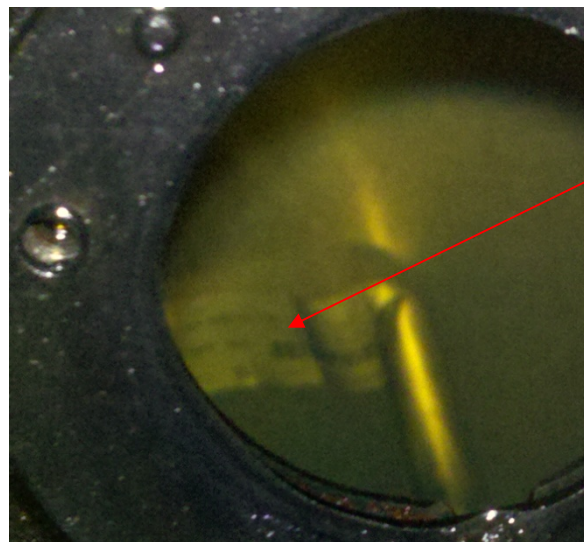

Figure 3
- 6) Remove the fuel sending unit using 5/16" socket. Look inside tank to see if label is still on the Webasto fuel pick-up tube. (See Figure 3) If so, the tube needs to be removed and tag and residue removed before reinstalling. Reinstall fuel sending unit. If the tag is not there then you can skip to step 11